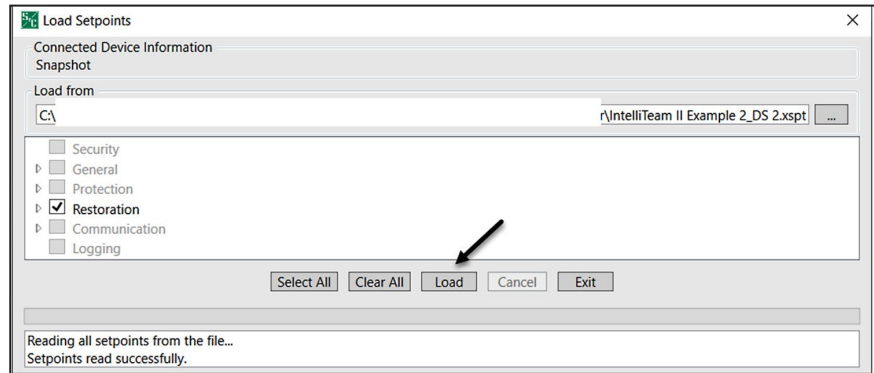

Figure 20. The Load Setpoints dialog box.
STEP 4. The Load Setpoints dialog box opens. Select the Restoration check box and make sure all other check boxes are unchecked. Then, click on the **Load** button. See Figure 20.